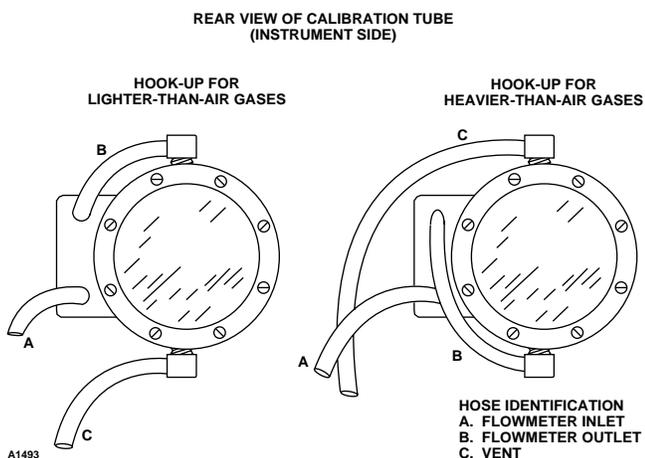

Figure 8—Calibration Hookup
- Attach the Flowmeter Outlet Hose to the appropriate hose fitting on the Calibration Tube as shown in Figure 8.
- Attach the vent hose and flowmeter inlet hose to the calibration tube as shown in Figure 8. For heavier than air gases, the flowmeter outlet hose is connected to the hose fitting on the bottom of the calibration tube and the vent hose is connected to the hose fitting on the top. For lighter than air gases, these two connections are reversed.